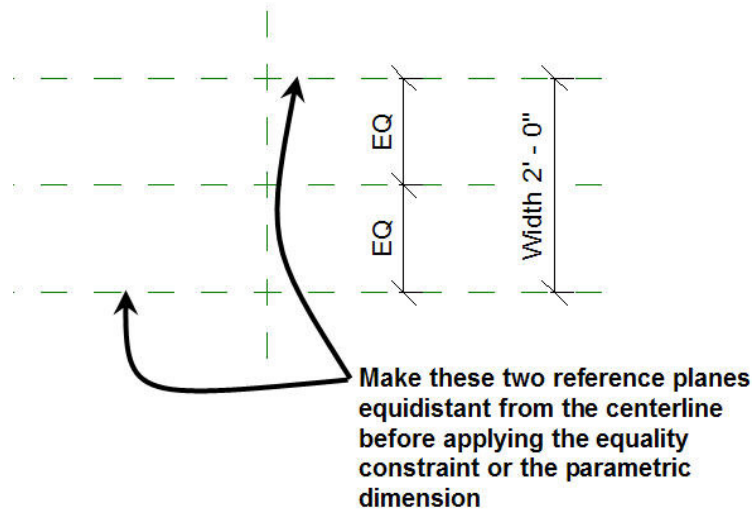

Figure 7. Controlling equality constraint behavior.
- When using an equality constraint to make geometry symmetrical about a center line while allowing it to grow or shrink about the centerline with an overall parametric constraint, create the reference planes with the desired symmetry before applying the equality constraint. This will remove any possible ambiguities from the equality constraint and will ensure proper behavior when the family is flexed later on. (See Figure 7).